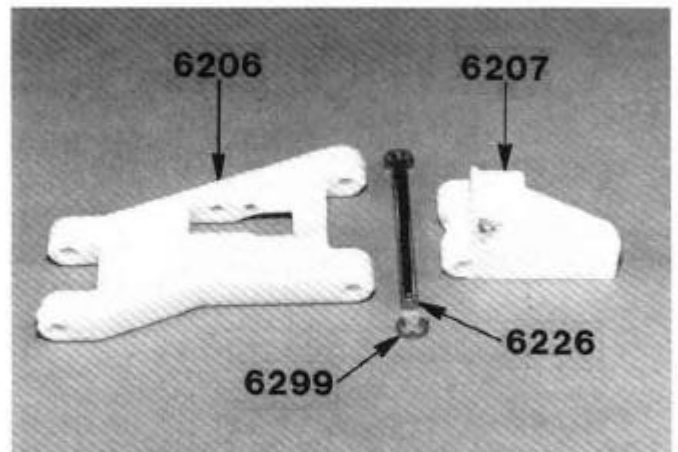

**FIG. 2**
**FIG. 2**—Install the front body mount as shown with a #2 Phillips screwdriver while holding the body mount with a pliers. Make sure you start the screw in straight. As soon as the screw tightens, stop twisting, or else you will strip out the plastic.